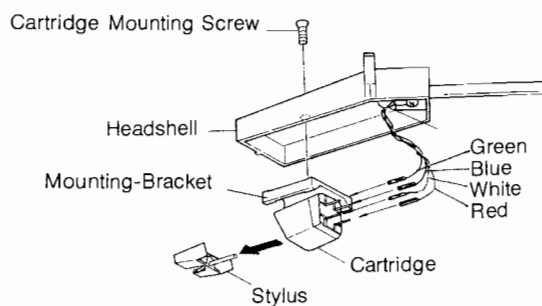

FIG. 27
(Refer to Fig. 27)
- 2) To remove stylus, pull stylus from cartridge in the direction of arrow, as shown in Fig. 27.